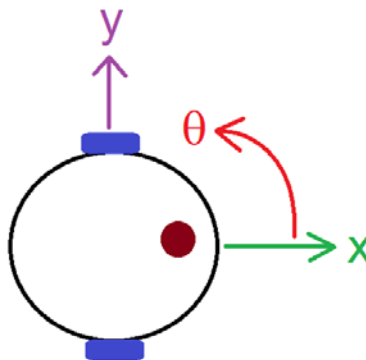

Figure 5: Robot Relative Reference Frame
7. The reference frame for the robot is shown in Figure 5, where the robot's start position is $(x,y,\theta) = (0,0,0)$.
6. Use the reference frame shown in Figure 5 for the `goToGoal()` behavior.